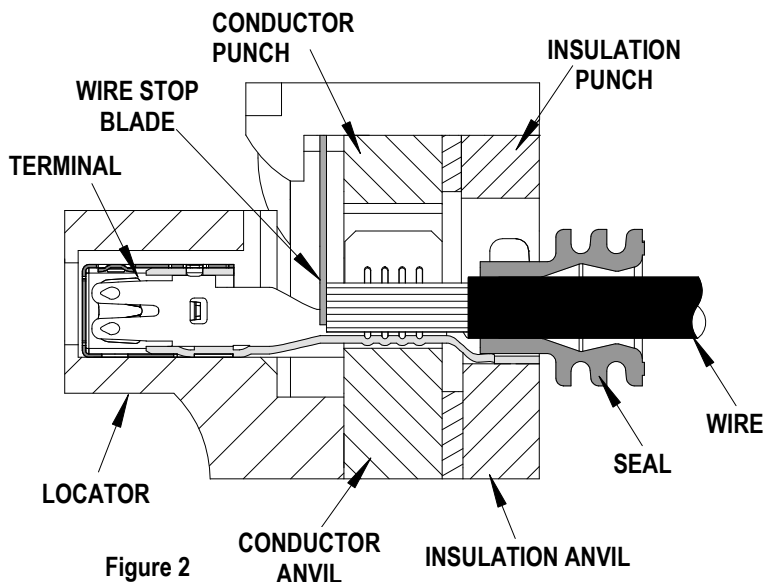

Figure 2
5. Be sure to hold the wire in place until the terminal is fully crimped. See Figure 2.